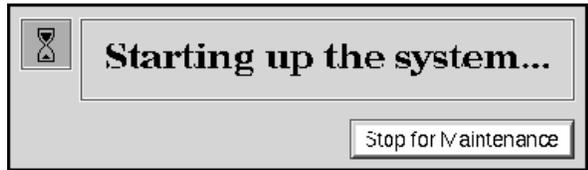

Figure 1-3 "Starting Up the System" Notifier
- Click the *Restart* button. You then see the message shown in Figure 1-3.